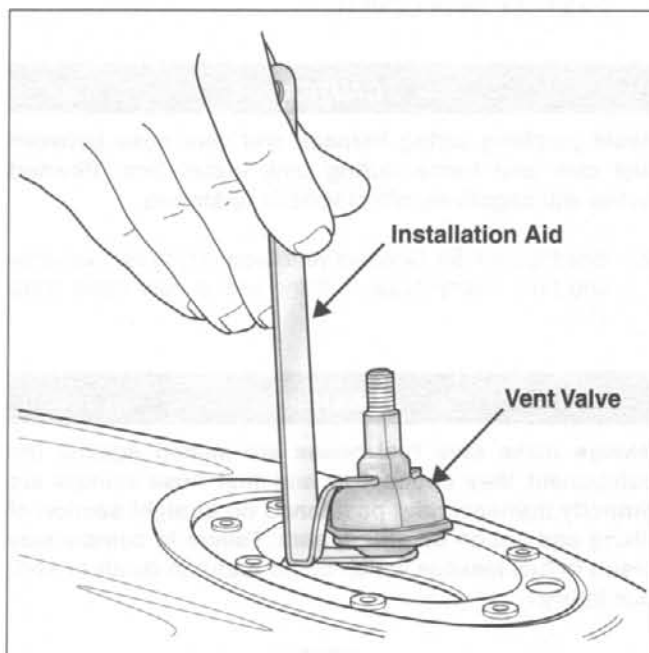

Figure 4-91. Installing Fuel Tank Vent
2. See Figure 4-91. Using the fuel vent valve installation aid, lower the **new** fuel tank vent valve into the fuel tank through the fuel filler neck.